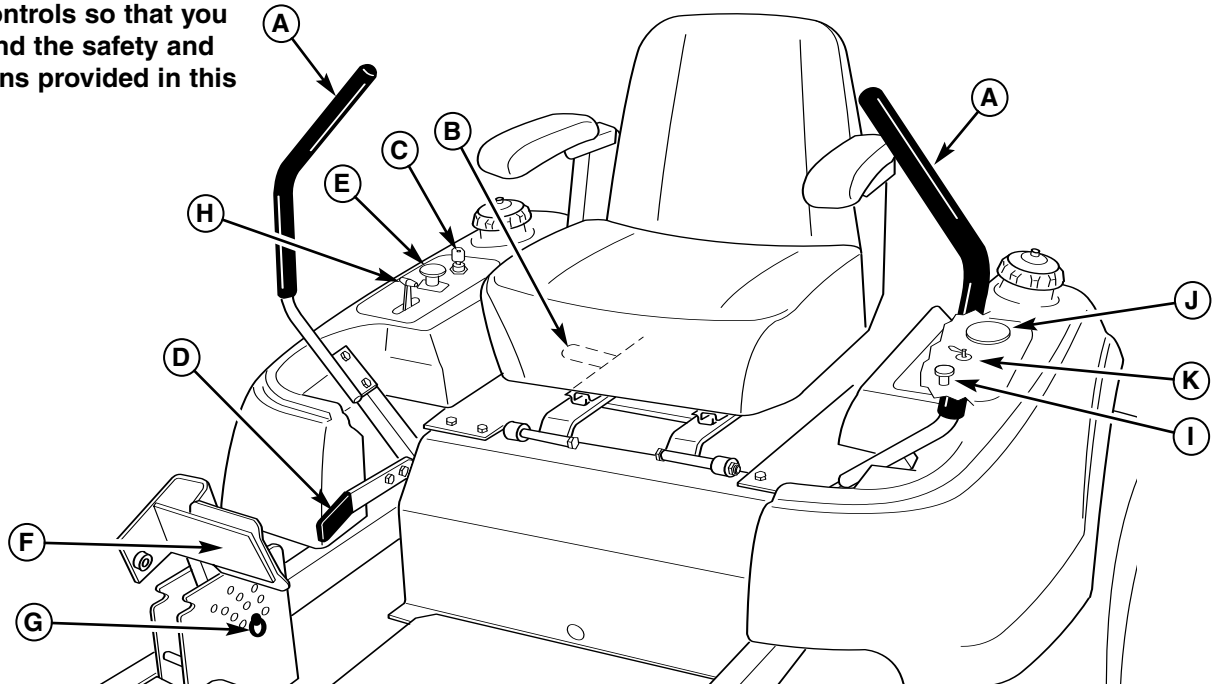

Figure 1. Control Locations
Set the engine throttle control (H, Figure 1) to FAST throttle position. Then fully close the choke (I, Figure 1) by pulling the knob OUT fully.
3. Insert the key into the ignition switch (K, Figure 1) and turn it to START.
1. Returning the ground speed control levers (A, Figure 1) to the middle position will stop tractor movement. Pivot the levers outward and lock them in NEUTRAL.
2. Disengage the PTO by pushing down on the PTO switch (E, Figure 1).
3. Engage the parking brake by pulling the handle (D, Figure 1) up until it locks into position.
4. Move the throttle control (H, Figure 1) to mid-throttle position and turn the ignition key to OFF. Remove the key.